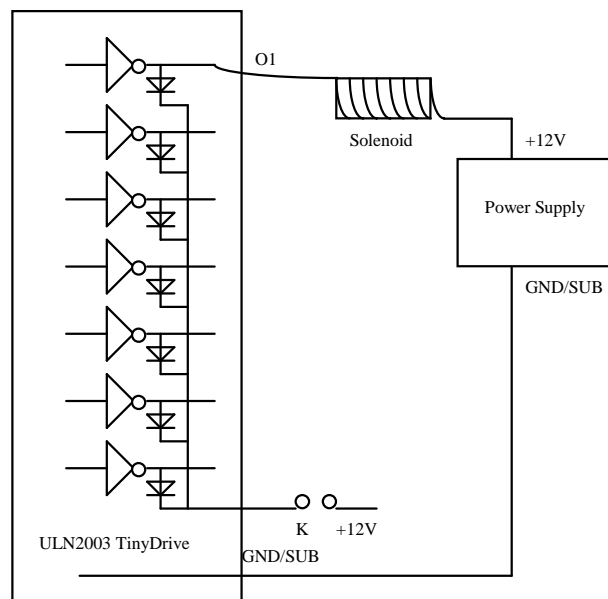

Figure 3.4 Drive inductive load with high voltage/current drivers.
ULN2003 has high voltage, high current Darlington transistor arrays, consisting of seven silicon NPN Darlington pairs on a common monolithic substrate. All channels feature open-collector outputs for sinking 350 mA at 50V, and integral protection diodes for driving inductive loads. Peak inrush currents of up to 600 mA sinking are allowed. U18 has seven high-voltage drivers (HV1-HV7). These outputs may be paralleled to achieve high-load capability, although each driver has a maximum continuous collector current rating of 350 mA at 50V. The maximum power dissipation allowed is 2.20 W per chip at 25 degrees C ($^{\circ}$ C). The common substrate G is routed to H7 GND pins. All currents sinking in must return to the H7 GND pin. A heavy gauge (20) wire must be used to connect the H7 GND terminal to an external common ground return. K connects to the protection diodes in the ULN2003 chips and should be tied to highest voltage in the external load system. K can be connected to an unregulated on board +12V via H7 pin 8. **ULN2003 is a sinking driver, not a sourcing driver.** An example of typical application wiring is shown in Figure 3.4.